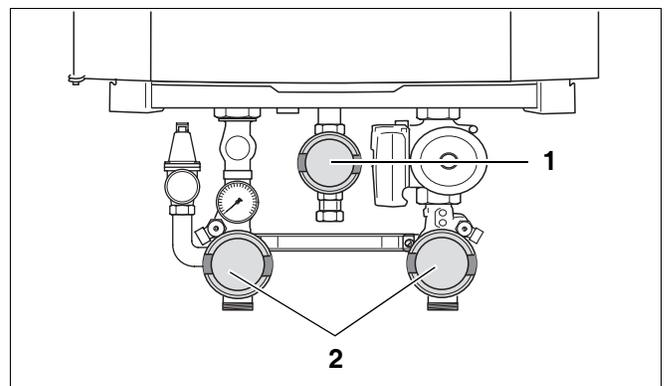

Fig. 75 Closing the valves (here: in closed position)
- Close the gas valve (fig. 75, pos. 1).
- Close the isolating valves (fig. 75, pos. 2).